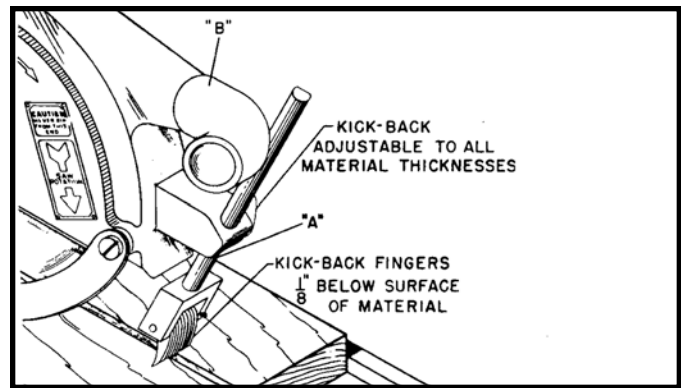

Fig. 46
On all ripping and plowing operations, the back part of the blade guard is lowered so that it just clears the material. This will prevent the material from being lifted off the table. Also, lower the kickback rod (A) Fig. 46, so that the kickback fingers are 1/8" below surface of material. The kickback fingers will then come into contact with the material preventing "kickback." Adjust dust elbow (B) Fig. 46, to direct sawdust to rear of machine.